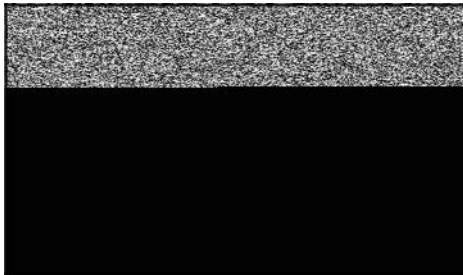

Figure 6
- Figure 6 - LMS, Models 97700, 99700, 110000, 120000, 150000 Vertical and Horizontal Shaft